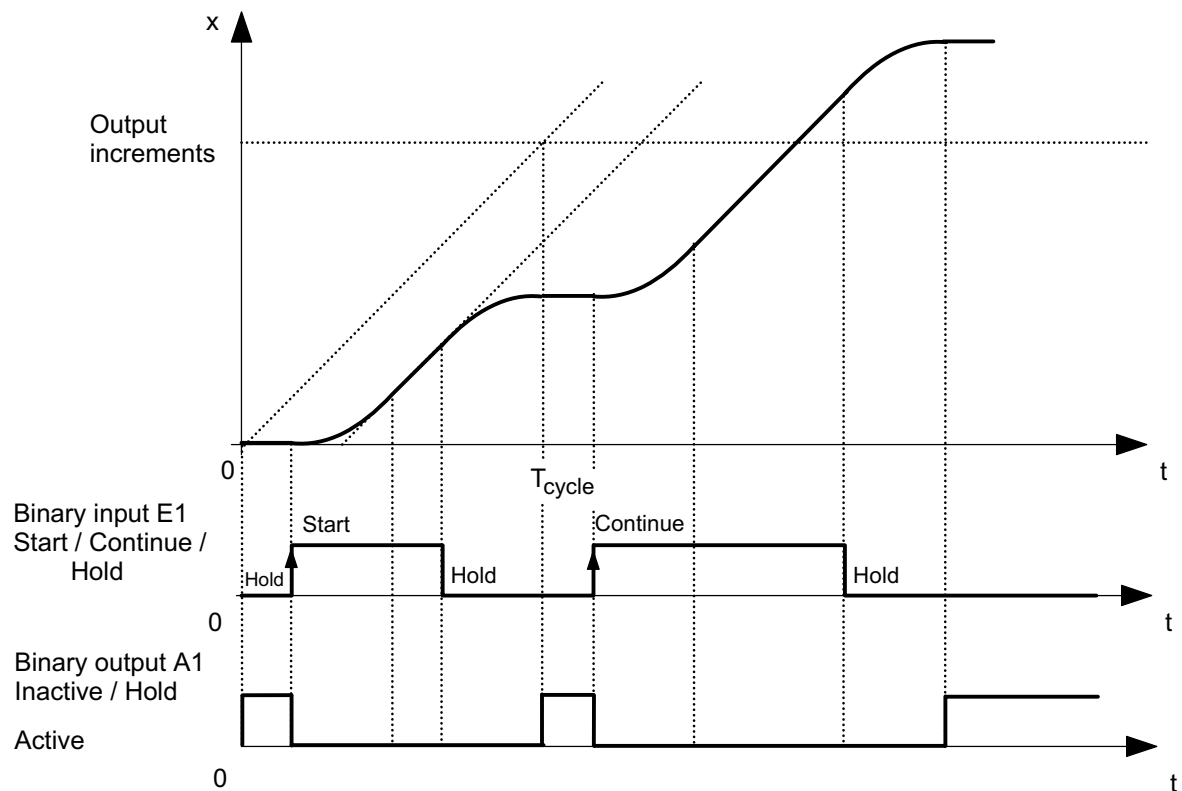
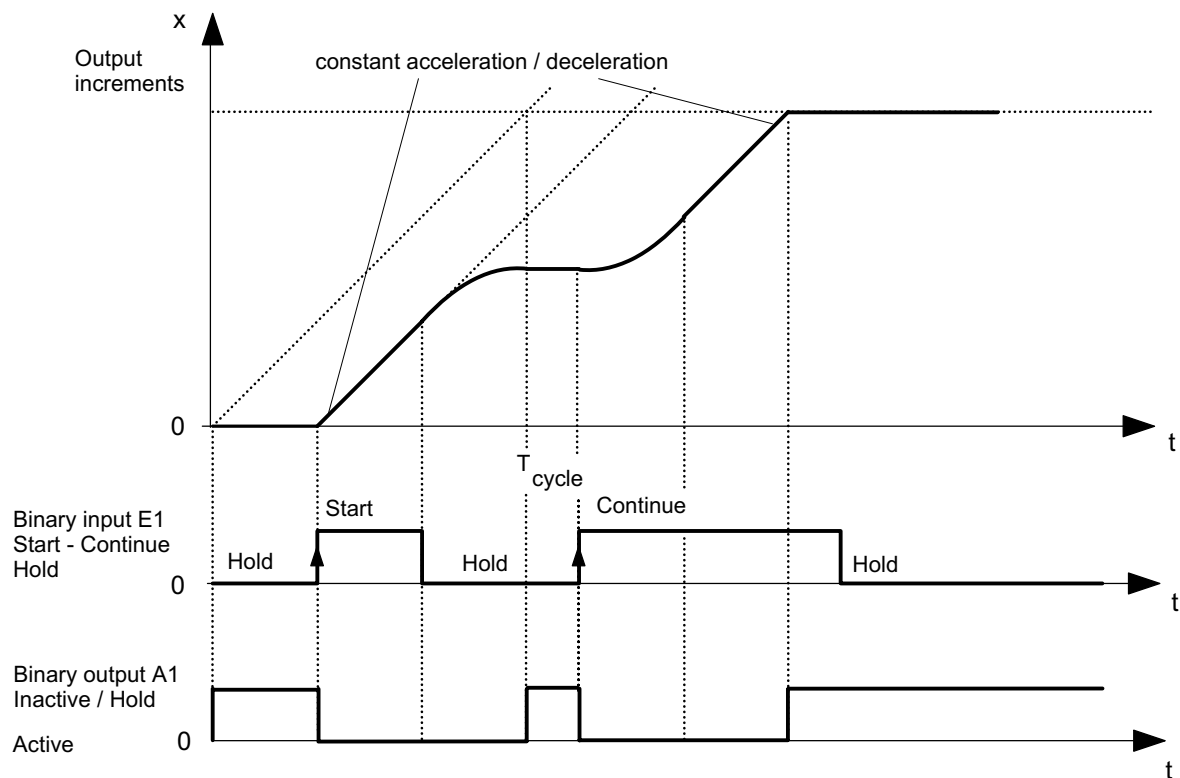

Figure 23: Principle of the reference input variable generator in the continuous mode
Figure 24: Principle of the reference input variable generator in the sequence mode
The basic functionality of the reference input variable generator comprises the generation the $X(t)$ profile (ramp) according to the following Figure 23 and Figure 24. In a further operating mode it is also possible to determine the output function depending upon input increments at the data holder input interface (cf. Section 2.3). As from version AZ-PS4 V02.09 it is possible using a further binary input (E2) to switch over between two acceleration values, e.g. for the fast change to an "Emergency deceleration" (without SF commanding).
- In the "Continuous mode" the reference input variable generator works infinitely (cf. Figure 23). After a positive edge change of the start signal E1 the generation of the X(t) ramp starts. If the start signal = 0, then the generation is interrupted. Both at the start and also on interruption (stop) the output values are changed through an adjustable acceleration (SFKMD parameter).
- In the "Sequential mode" the reference input variable generator ends the value output after the output of a parameterizable number of distance increments independently (cf. Figure 24). After a positive edge change of the start signal E1 the generation of the X(t) ramp starts. Independently of the start signal, the generation is ended as soon as the input number of distance increments is output. The reference input variable output can be interrupted by removing the start signal through the adjustable acceleration and continued by renewed setting.
- In an "Internal velocity input" the functions displayed in Figure 23 and Figure 24 result. The ramp slope (velocity) results from the SF commanding parameters.
The operating modes of the three operating mode groups can be combined arbitrarily. With an "External velocity input" the same statements apply concerning the start signal E1 as for an "Internal velocity input" according to Figure 23 and Figure 24.